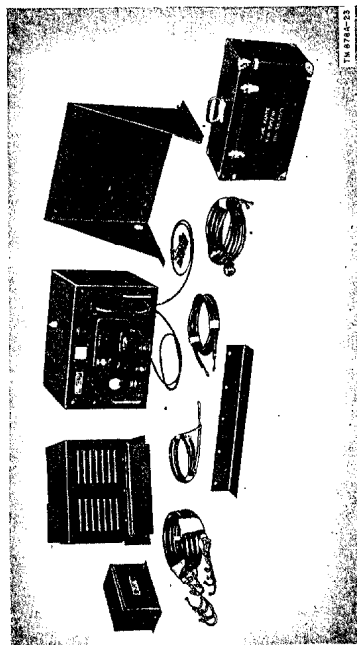

Figure 15. Components of Radio Transmitter T-83/SR.
c. When lubricants are to be applied, use solvent (SD) to clean thoroughly the point to be lubricated and all other parts affected; dry with a lint-free cloth.
a. Radio Transmitter T-83/SR is a 50-watt telephone and telegraph marine radio transmitter. Either c-w or phone transmission is available on any of five preset channels in the frequency range between 1,700 and 8,700 kc. Three separate units house the entire transmitter installation (fig. 15). Provisions are made for remote control operation of the radio transmitter.